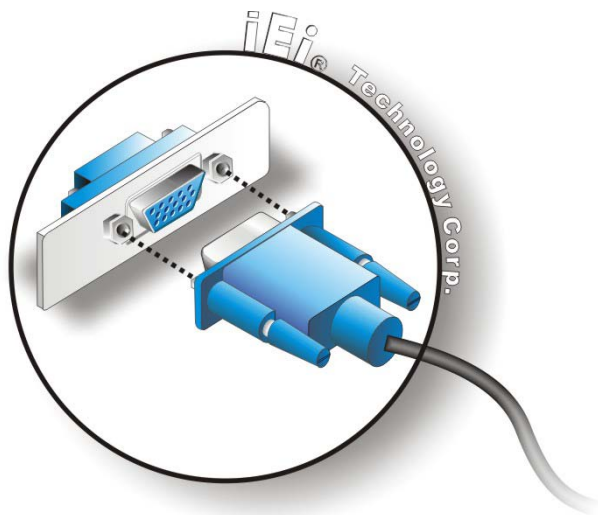

Figure 3-24: VGA Connector
- Step 3:** **Insert the VGA connector.** Once the connectors are properly aligned with, insert the male connector from the VGA screen cable into the female connector on the TANK-760. See **Figure 3-24**.